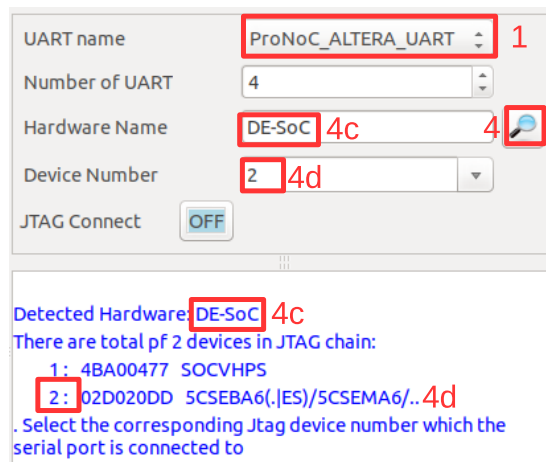

Figure 11.2: Altera FPGA configuration setting.
- (c) For Altera FPGAs (see Figure 11.2) set the `Hardware name`.
- (d) For Altera FPGAs you need to set the FPGA device target number in the JTAG chain. Figure 11.2 shows an example for DE10-Nano Altera FPGA board. The FPGA device is `5CSEBA6U23I7` which is the 2nd target in jtag chain.